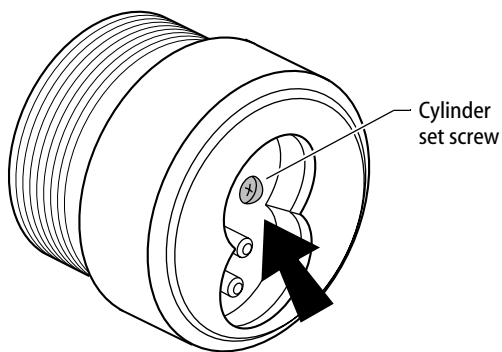

Figure 7
- 2 Tighten the cylinder set screw as shown in Figure 7.